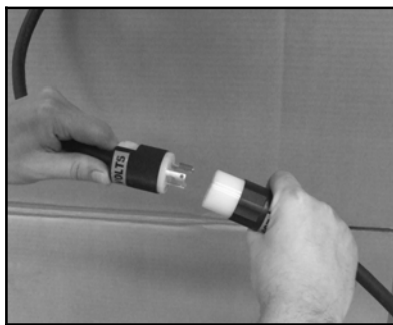

**Figure 10**
2. Align the (3) hole pattern to mate with (3) hole pattern on tow bar. (Refer to Figure 10).